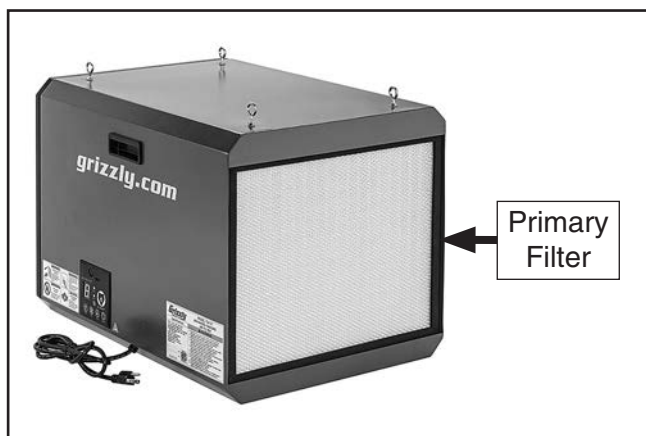

Figure 2. Location of primary filter.
2. Remove primary filter from intake side of machine (see **Figure 2**).